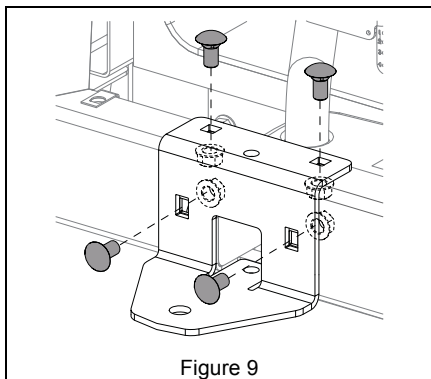

Figure 9
See Figure 9.
2. Position trailer hitch over frame as shown in Figure 9.